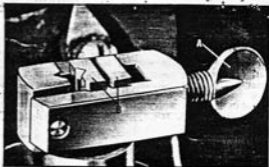

Fig. 11
3. Loosen thumb screw (A) Fig. 11.
4. Insert blade about one-half inch between the two flat jaws (B), centering it in the jaws and holding it vertical. Then tighten thumb screw (A) Fig. 11.